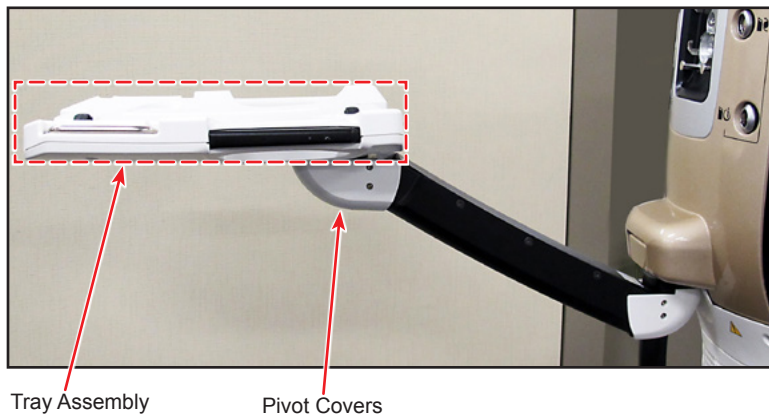

Figure 3-17 Tray Assembly at Highest Position
- 23.1 Raise the Tray Assembly to the highest position as shown in Figure 3-17.